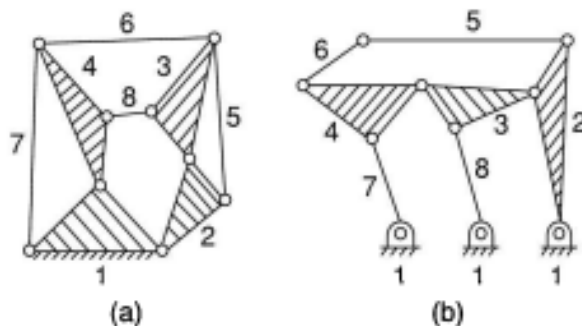

Figure 2
- 2 a. For the kinematic linkages shown in Figure 2 (a) and (b), calculate the following;